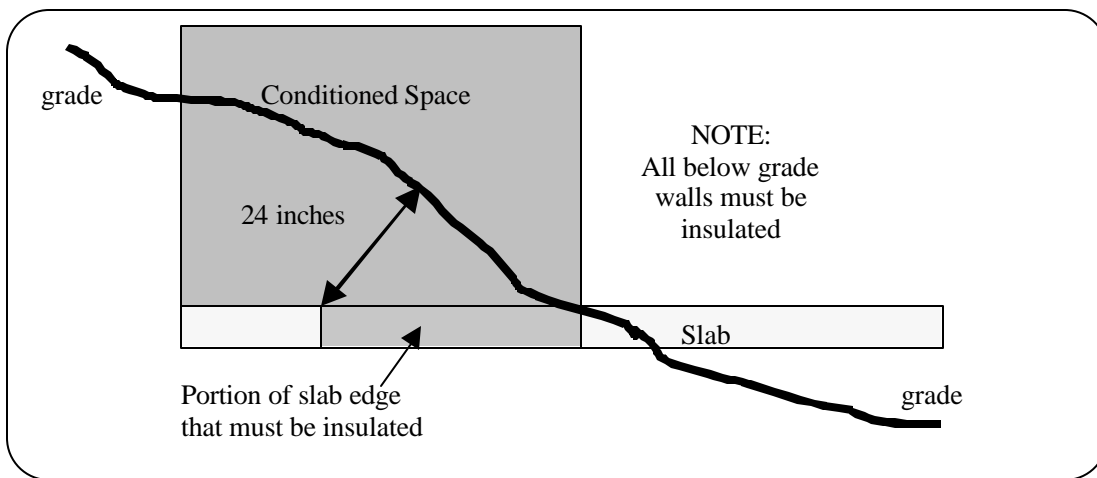

Figure 3 - Slab and conditioned space cross section on sloped grade
- Partial insulation of the slab-on-grade is necessary on all slabs that are less than or equal to 24 inches below the final elevation of the nearest exterior grade. See Figure 3.
- Where slabs extend beyond the building envelope, they shall be treated as a floor or roof depending on the proximity of conditioned spaces. See Figure 3. No thermal break is necessary.